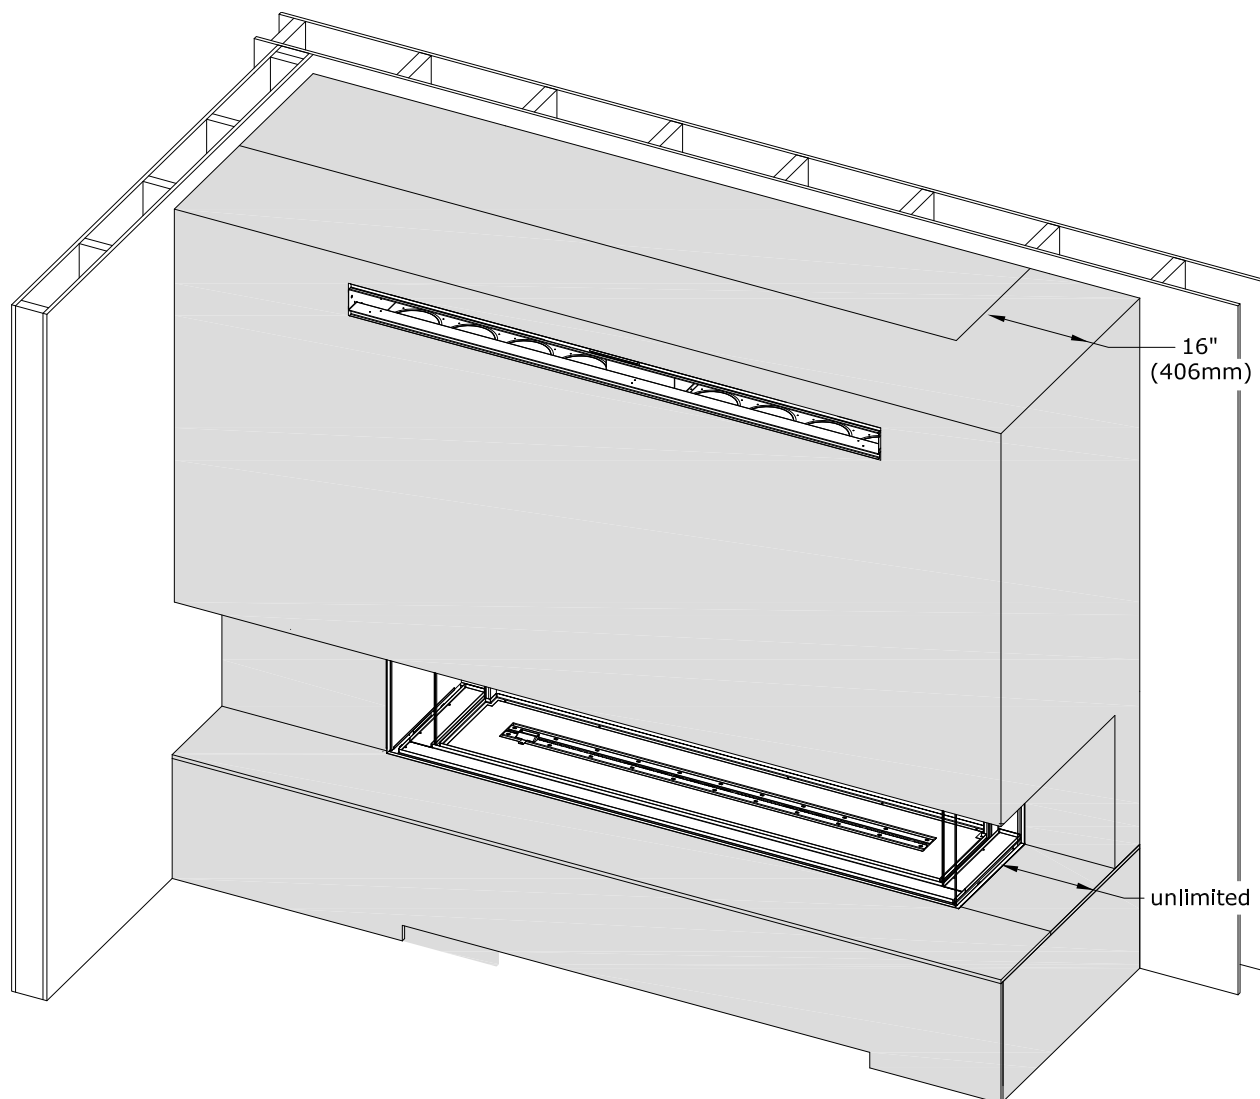

Figure 2.20 - Front and Side Projections
- **Combustible Mantel Leg:** A mantel leg can be installed at 0" (0mm) to the fireplace side finishing edge. Refer to Figure 2.20 which shows a combustible projection up to a max of 16" (407mm) on the fireplace side finishing edge.
Figure 2.20 shows a fireplace with a front and side chamber projection with a hearth installed.